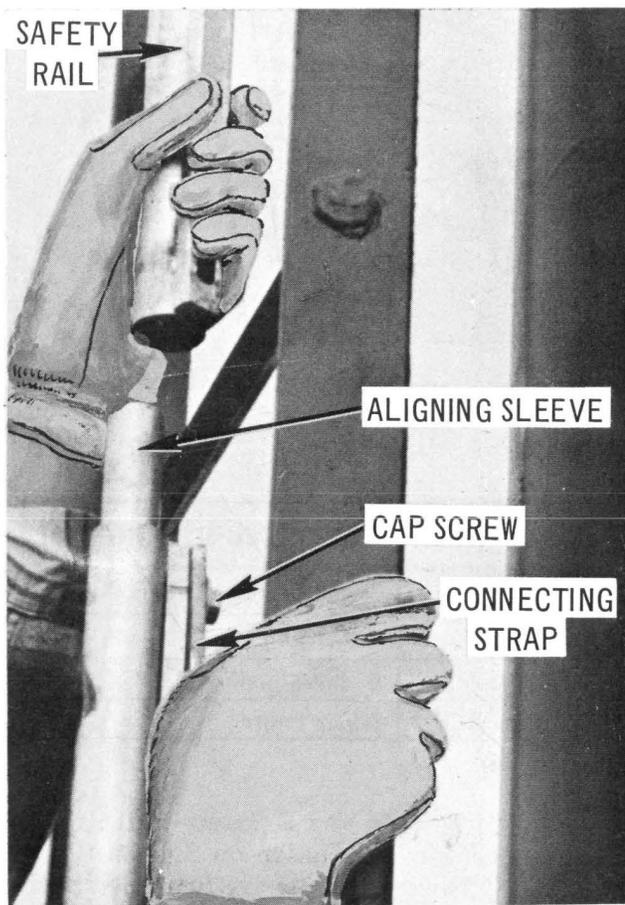

Fig. 7
3.07 Attached to the top end of each length of safety rail is a 4-inch connecting strap which holds the rails together at the unions. Before raising any rail sections, loosen the cap screw holding the strap enough so that the alignment sleeve can be slipped inside the rail section. (See Fig. 7.)